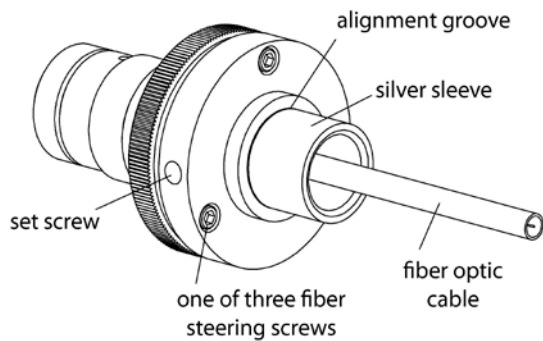

Figure 3 - Components of a lens assembly
1. Use the 5/64-inch hex screwdriver from the **qpod** accessory kit to loosen the set screw (**Figure 3**).